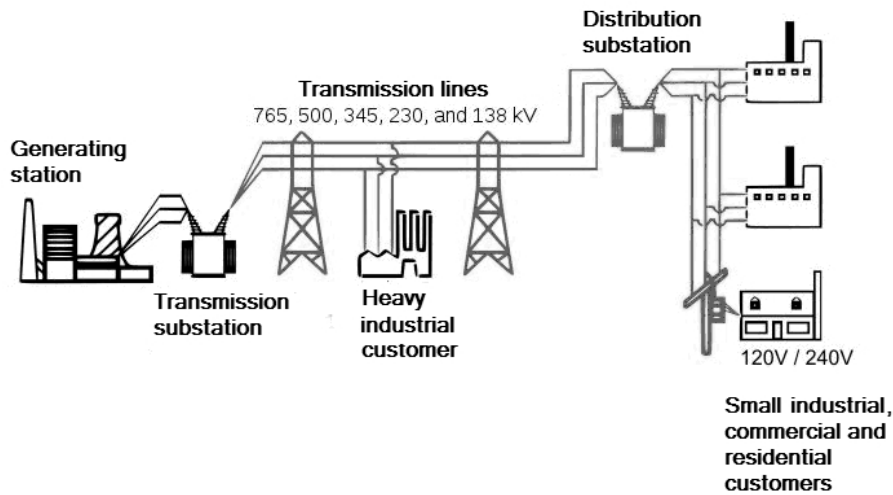

Figure 5.1
5. (a) Referring to Figure 5.1 for a typical power generation, transmission and distribution network, answer the following: